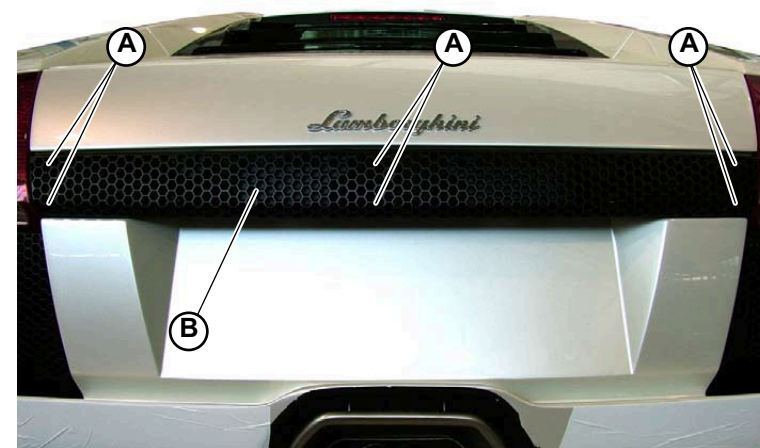

Fig.1
1. Unscrew the 6 screws (**A-Fig.1**) securing the rear central grid (**B-Fig.1**) to the body.